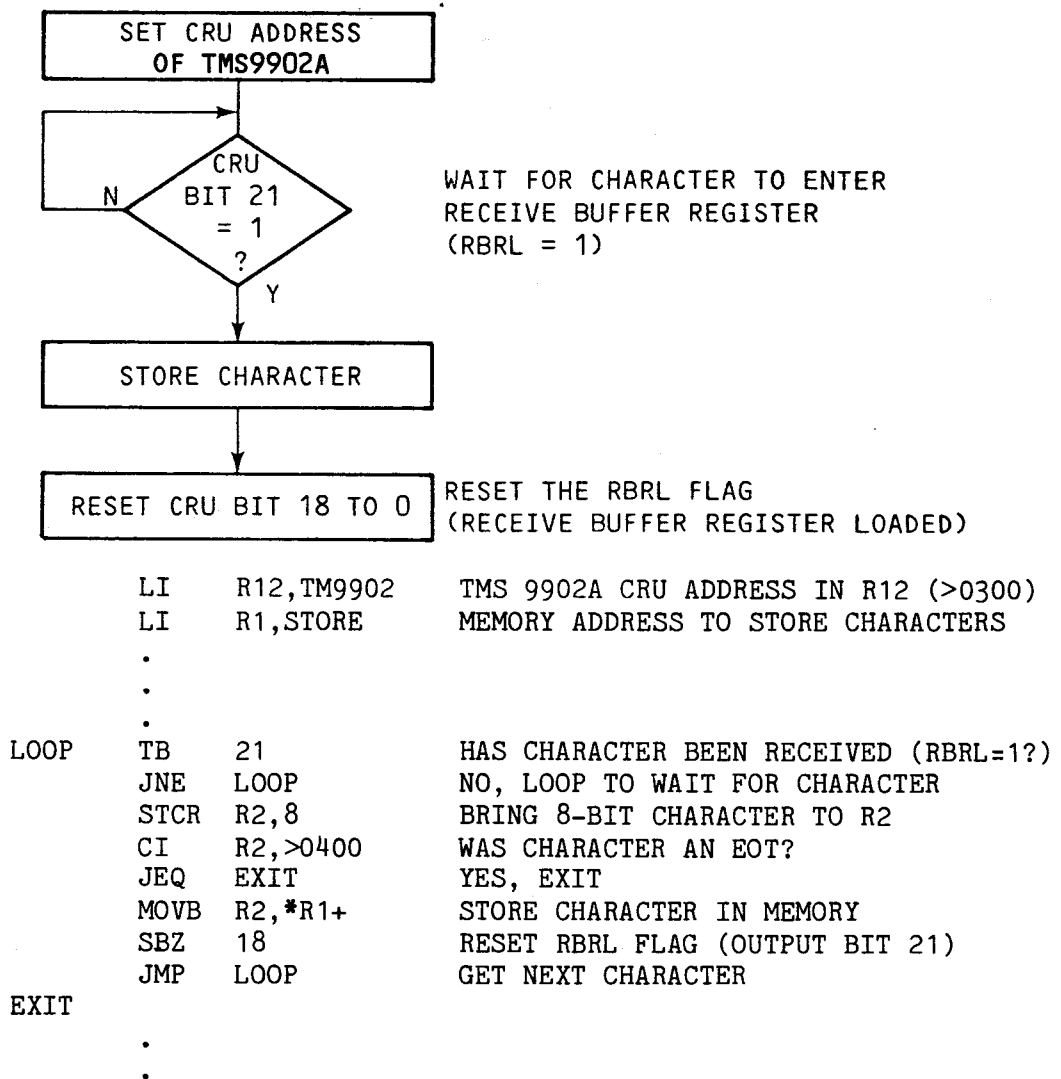

FIGURE 5-5. RECEIVE CHARACTER(S) BY POLLING
5.4.1 Receive Character by Polling (Figure 5-5)
A high-to-low transition on external line RIN (pin 3) of the TMS 9902A activates its receiver circuitry. Pin RIN then is used to serially receive the character. Figure 5-5 shows code to poll for a character received. When the complete character is received, bit 21 (RBRL) is set to one. In the third line of code in Figure 5-5, bit 21 is polled for a full character received. Writing to bit 18 (RIENB) resets bit 21 so that it can be checked again for the next character received. Note that after resetting the TMS 9902A via the RESET bit (31), no input operation should occur for 11 clock cycles. See Note 2 on Figure 5-4.
Figure 5-5 shows checking for character received by polling bit 21; however, if enabled, an interrupt can be generated to the microcomputer upon receipt of a character. To enable this interrupt, set bit 18 (RIENB) to a one. Of course, the interrupt level jumper, the interrupt controller (e.g., TMS 9901) and microprocessor interrupt mask on the CPU module must be preprogrammed along with the values in the interrupt vector areas and the interrupt service routine.